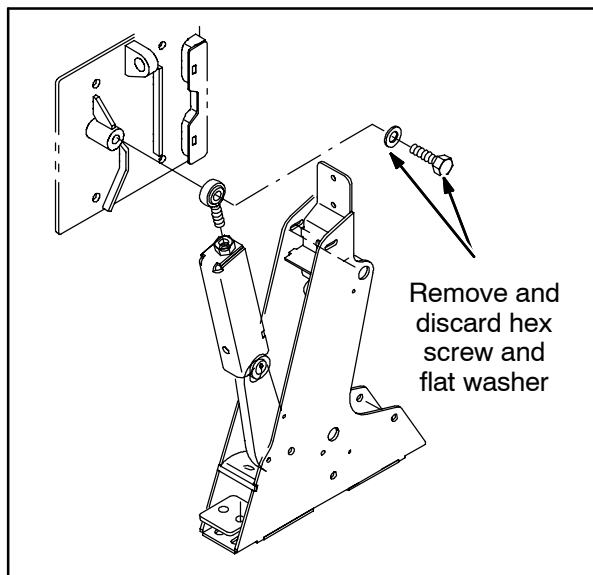

FIG. 4
2. Remove and discard the M16 hex screw and flat washer securing the rod end to the conveyor lift plate. Refer to Fig. 4.